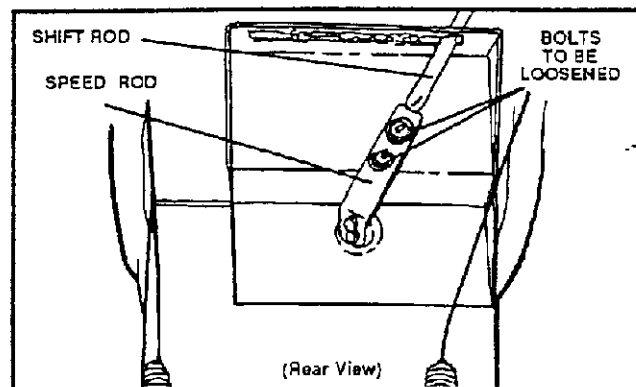

FIG. 12-SERV & ADJ
- Loosen bolts in shift rod (See FIG. 12-SERV & ADJ).
- Remove shift rod from speed rod (See FIG. 12-SERV & ADJ).